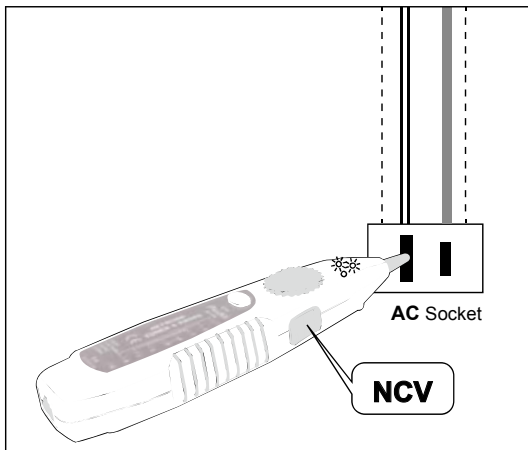

Figure 11 Non Contact Voltage Test
1. Per Figure 11, turn the switch to “NCV”, the function is started when the power indication is on.